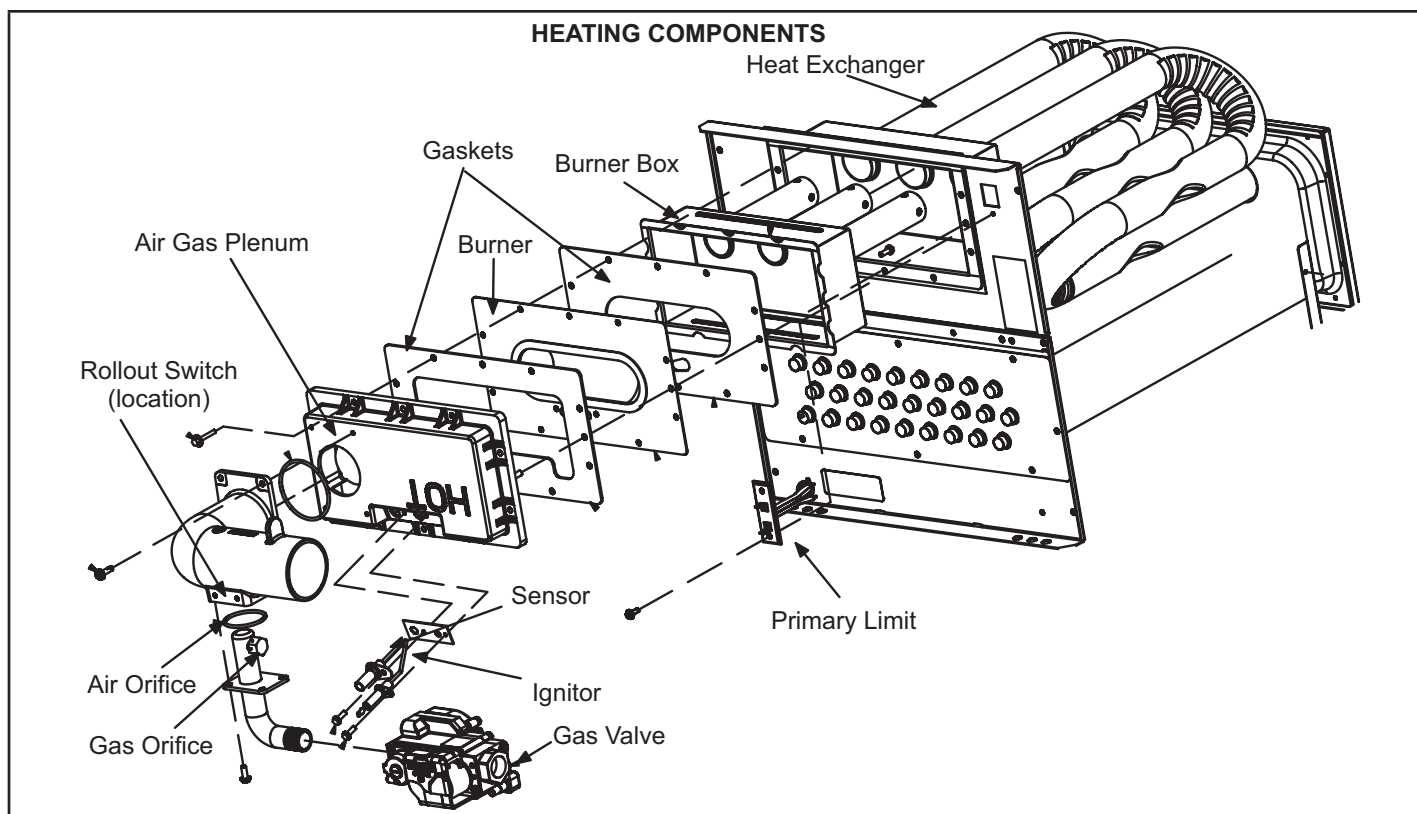

FIGURE 5
1. Thermal Switch (FIGURE 5)
Burners are factory set and require no adjustment. Always operate the unit with air gas plenum in place. The burner has one orifice located between the gas valve and the air intake assembly (FIGURE 5). To check or replace the orifice remove the black iron inlet pipe from the gas valve then remove the four screws securing the gas valve to the intake air pipe. The orifice is located in the orifice housing. The burner uses an orifice (see TABLE 6) that is precisely matched to the burner input. The burner can be removed for service. If burner has been removed, it is critical to replace all gaskets.
5. Flame Sensor (FIGURE 5)
6. Ignitor (FIGURE 5)